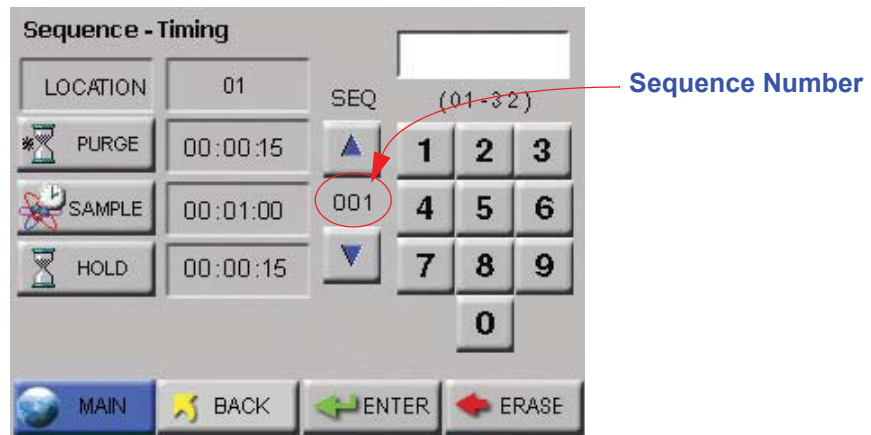

Figure 6-32 Sequence Timing Configuration Screen
- On the Manifold Sequence Screen, press EDIT on the right corner of the screen to access the Sequence Timing Screen shown in Figure 6-32.